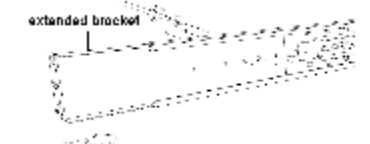

Figure 13 Inserting and tightening the long bracket
4. Tighten at least 2~3 screws along the length you need. **Note!** For medium bracket use the round screws, and for the long bracket use the flat screws. See Figure 13.